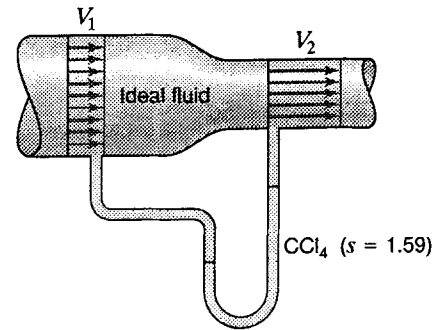

Figure P5.40
- 5.41 Refer to Fig. P5.40. Assume an ideal fluid with  $\rho = 900$  kg/m3. The pressure at section 1 is 100 kN/m2;  $V_1 = 10$  m/s,  $V_2 = 20$  m/s. (a) Determine the reading on the manometer. (b) If the downstream piezometer were replaced with a pitot tube, what would be the manometer reading? Comment on the practicality of these arrangements?